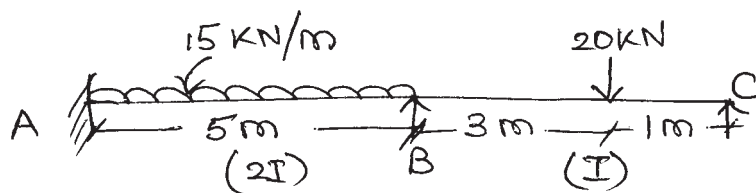

Fig. No. 5
- a) Draw BMD by using moment distribution method for a beam as shown in Figure No. 5.